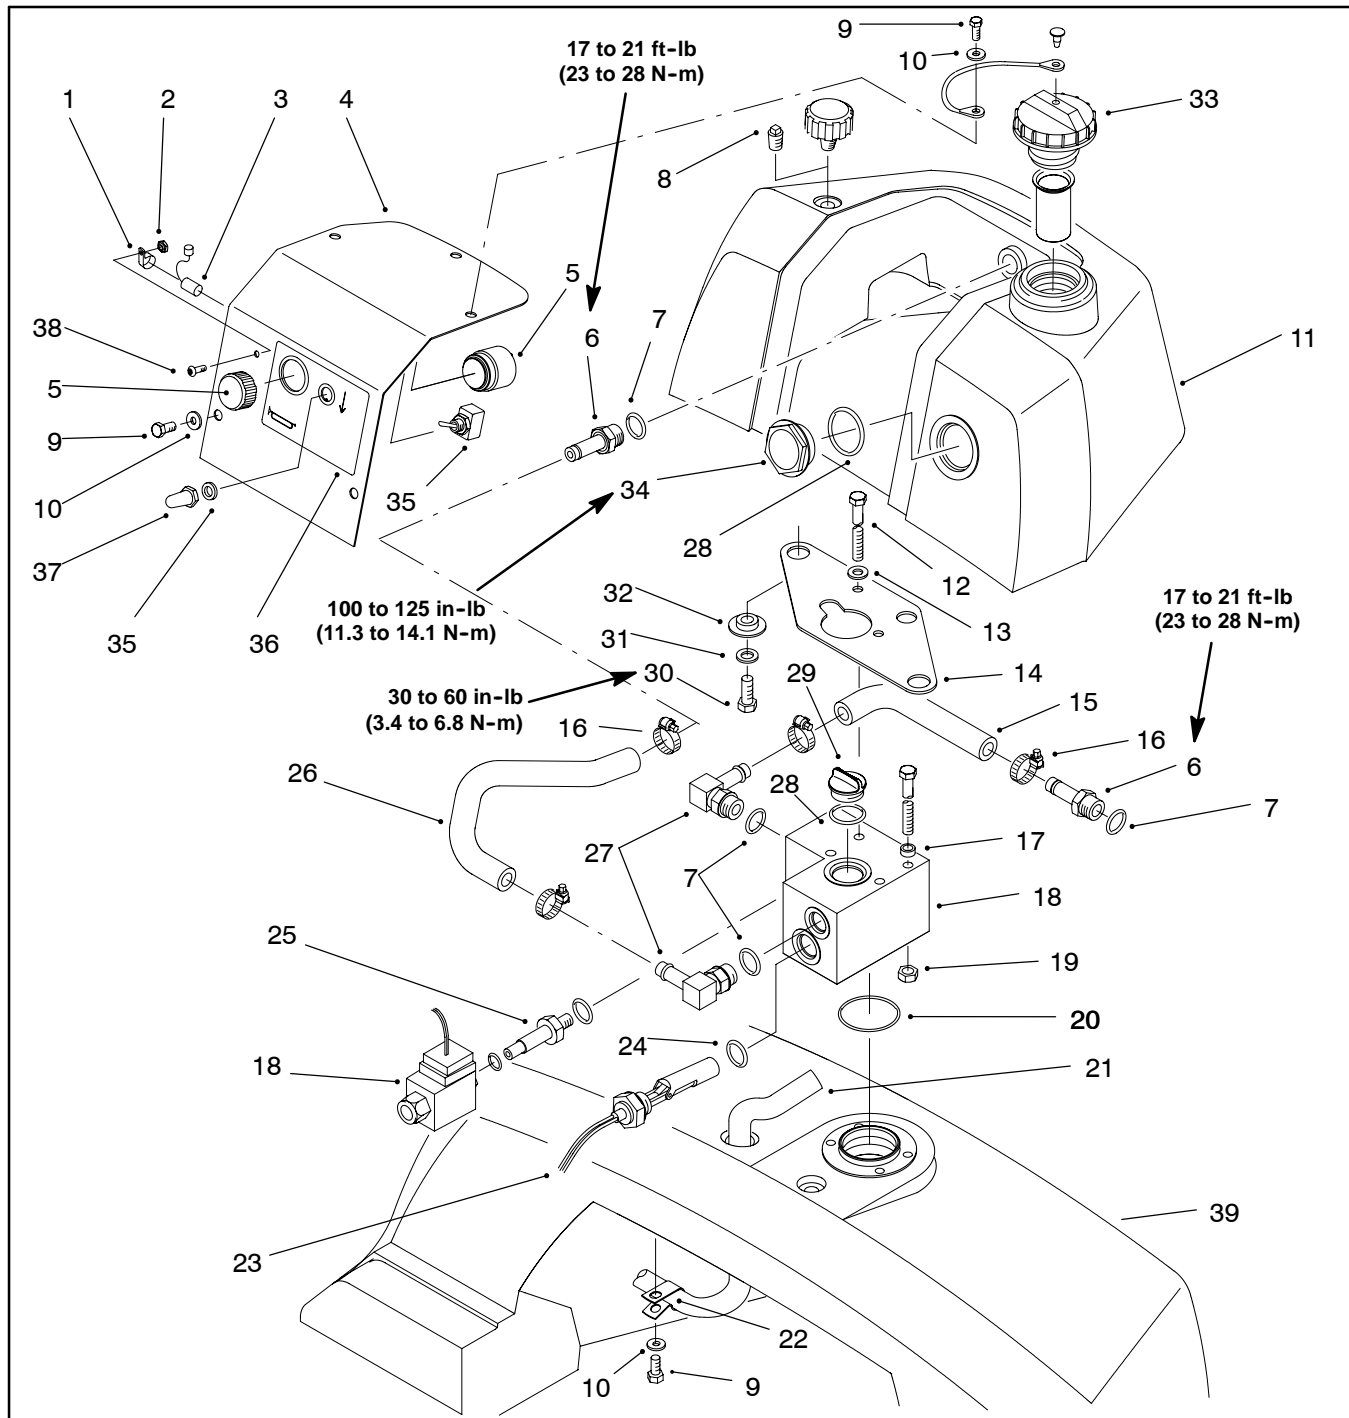

Figure 88
## Removal (Fig. 88)
## Installation (Fig. 88)
### Disassembly and Inspection (Fig. 88)
1. The leak detector can be disassembled using the leak detector assembly drawing (Fig. 88) as a guide.
### Assembly (Fig. 88)